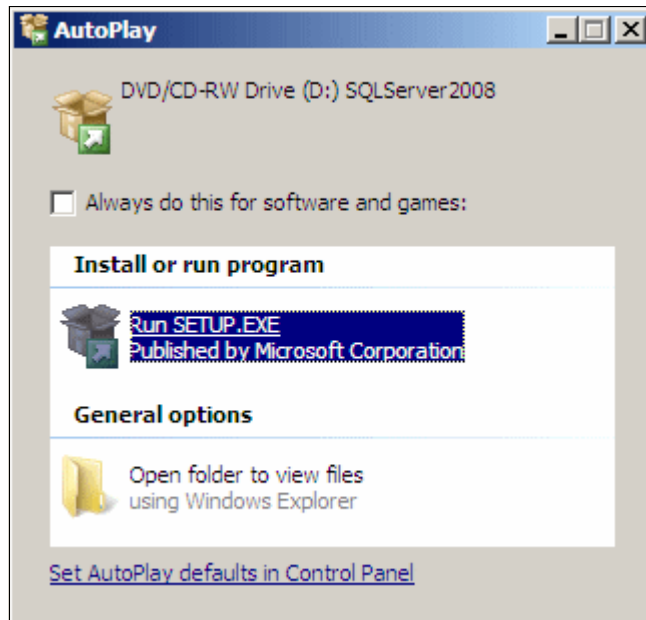

Figure 6-17 Autoplay panel to run the setup.exe from CDROM
2. The “AutoPlay” panel (Figure 6-17) displays. Click the setup.exe file to start the SQL Server Wizard.